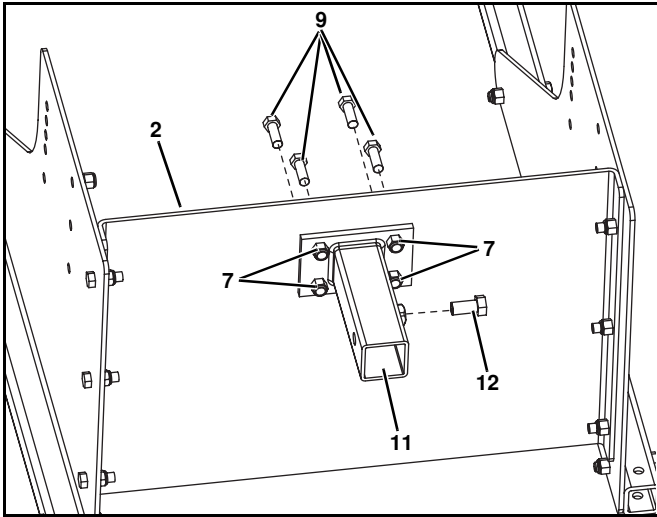

Figure 5
5. Bolt hitch spreader mount (#11) to the rear of the stand support bracket (#2) with (4) 1/2"-13 cap screws (#9) from inside; retain with (4) 1/2"-13 nylock nuts (#7). (See Figure 5.) Add 5/8"-11 x 1-1/2" cap screw (#12) to side of hitch mount. (Tighten when spreader is mounted to limit movement.)